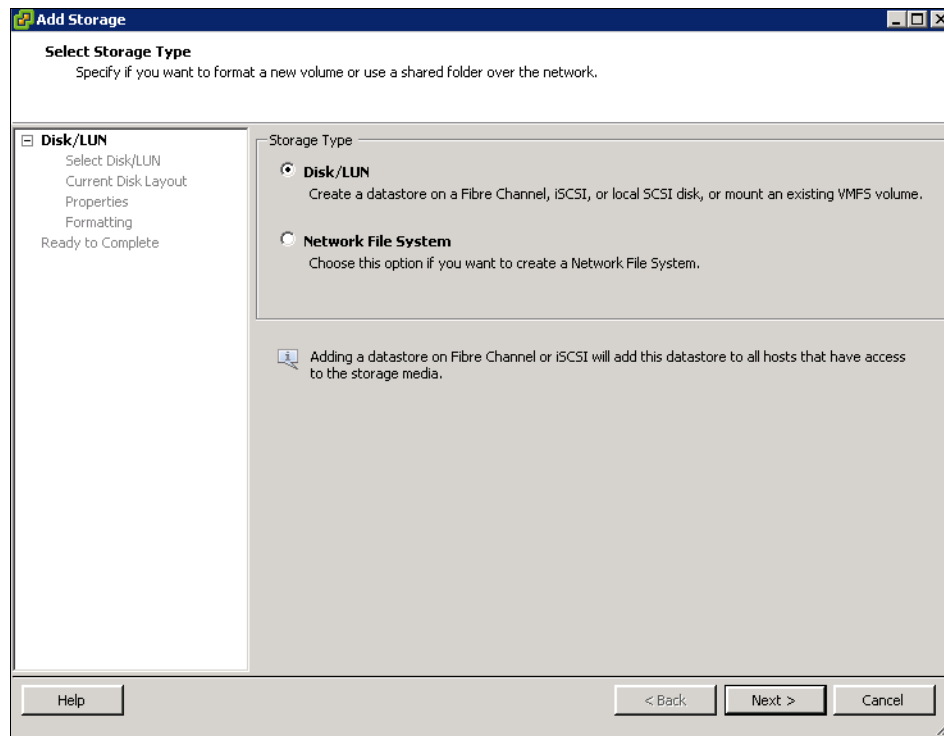

Figure 5-59 Select Disk/LUN menu
7. The Add Storage wizard opens (Figure 5-59). Select **Disk/LUN** and click **Next**.